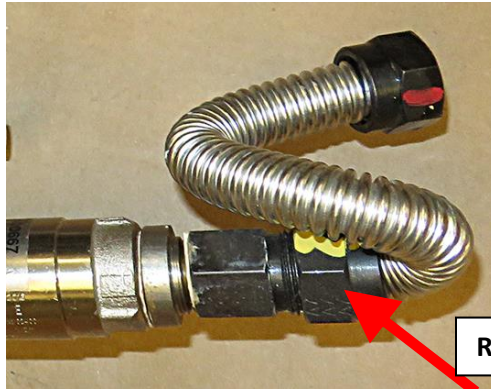

Figure 27
30. Reattach the flexline disconnected in step 22 (see Figure 27).